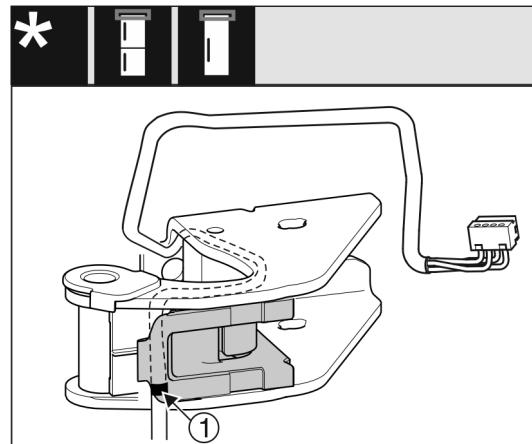

Fig. 26
- ▶ The center mark Fig. 26 (1) must be positioned on the edge of the cable bracket.